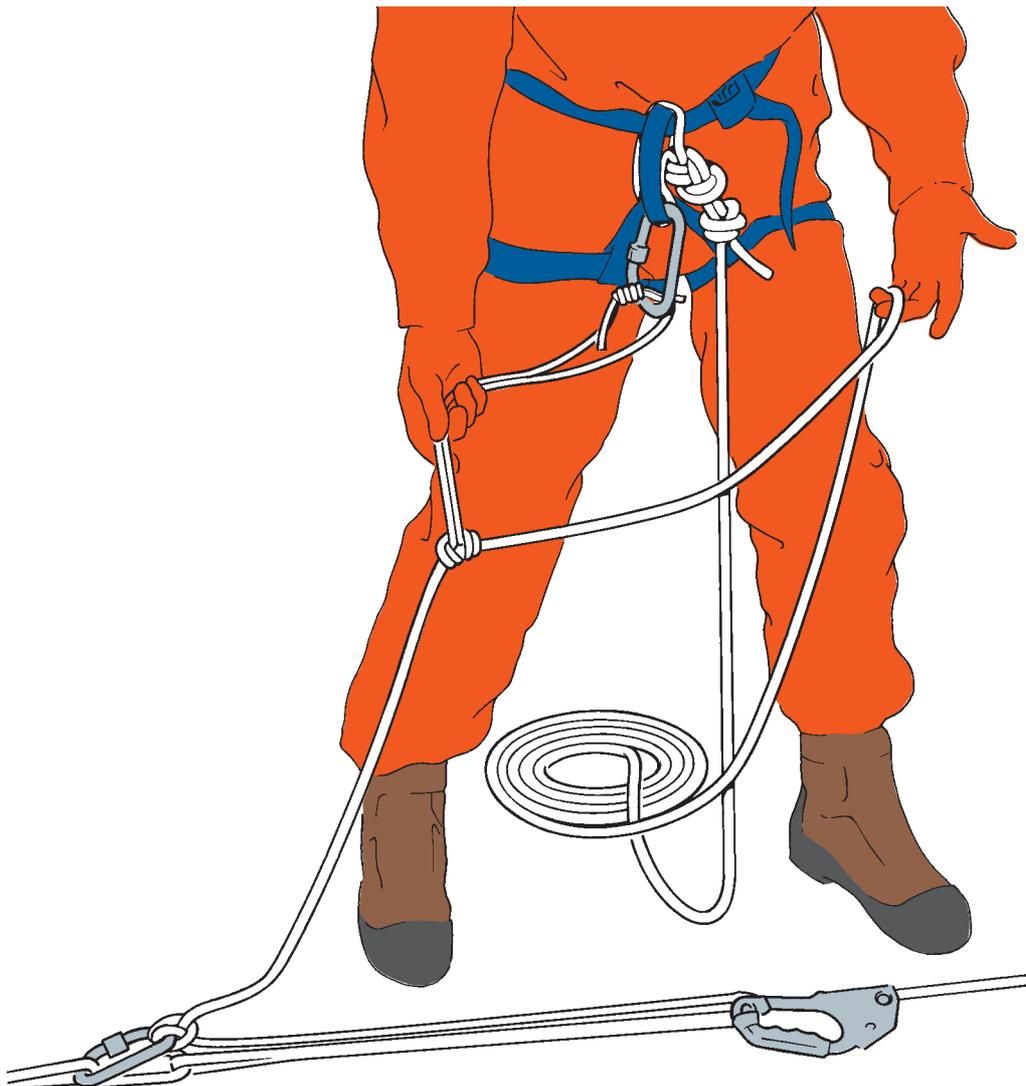

Figure 10.13b Moving forward
- 3 The Jumar should now be backed up with a Clove Hitch tied-in to a karabiner clipped into the main anchor point (see Figure 10.13b). To do this, remove **one** coil from your chest coils in order to gain enough slack to tie this knot. **Do not remove all your coils at this stage**, as you would introduce approximately 16 metres of slack into the system. This would be a bad thing.